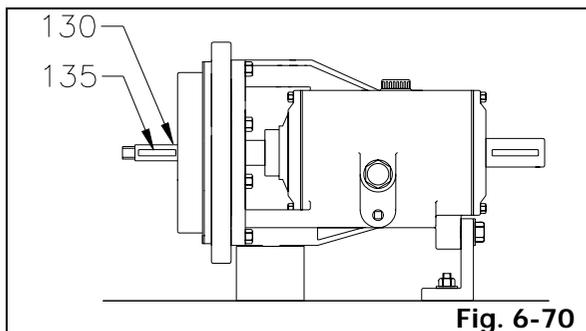

Fig. 6-70
1. Install key for impeller (135) on shaft (130) (Fig. 6-70).